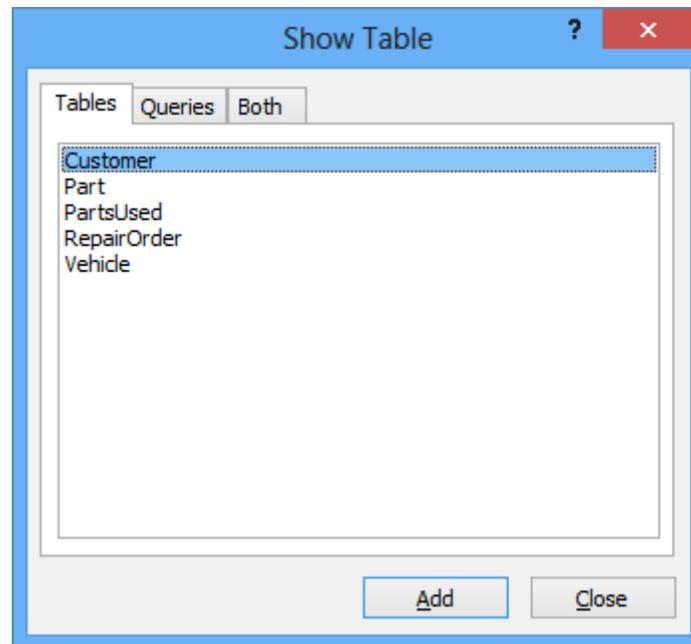

Figure 50: Show Table Window
2. **Add Tables Not Shown:** You may still need to add the remaining tables not shown in the Relationships window. In the ribbon's Design group, click **Show Table** and a window will appear listing the available tables as shown in Figure 50. For each table that you want to add, select it and click the **Add** button. (For this exercise, this step is not necessary.)
4. **Link Tables:** When all of the tables are in the Relationships window, there may not be connecting lines between all of the tables. (In this situation, lines connect all of the tables.) But if you had to create relationships between the tables, drag the primary key field from the parent table to the child table that contains the parent table's primary key. For example, (although these tables are already linked) you would have dragged the *Customer* table's *CustNo* primary key field to the *Vehicle* table's *CustNo* foreign key field. A connecting line would appear as in Figure 50. Each time you do this, the Edit Relationships dialog appears (Figure 52).
1. Open the Relationships Window: In the ribbon’s Design group, click **Show Table**. A dialog box appears listing the available tables, as shown in Figure 50. For each table, select it and click the **Add** button.